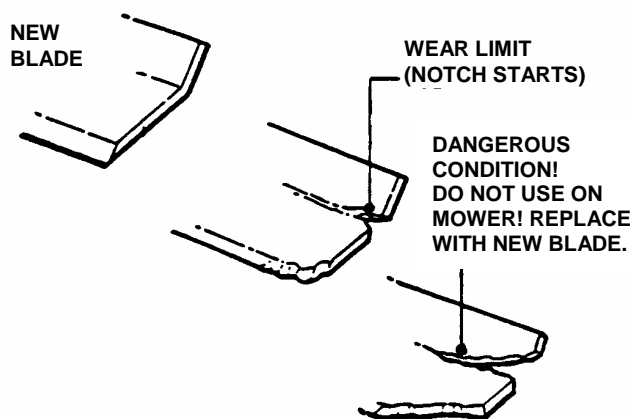

FIGURE 4.1
1. Inspect blade frequently for signs of excessive wear or damage. See Figure 4.1.
2. Replace the blade if it is badly chipped, bent, noticeably out of balance or has cracks or notch in either tip. See Figure 4.1 & 4.2. Replace with new blade.